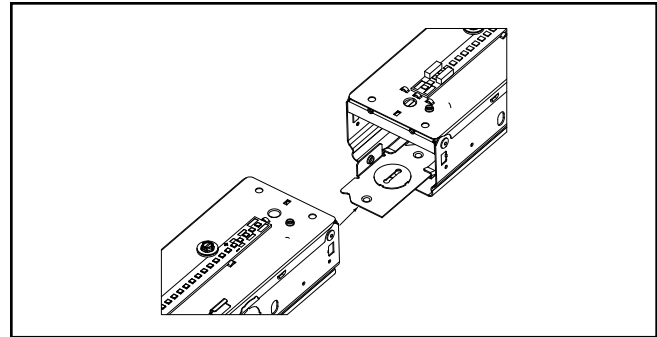

Figure 5.
4. Insert row aligner into channel (Figure 5).